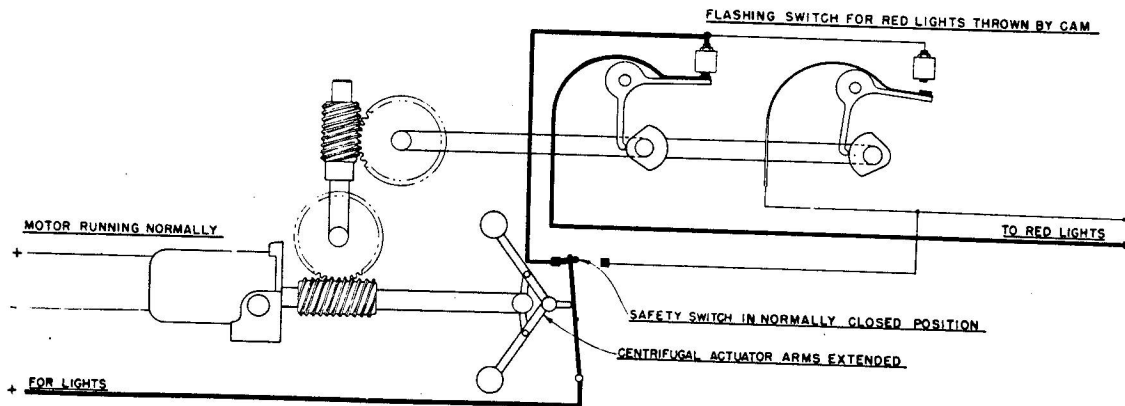

Figure 4-2 - Position Light Flasher, Functional Diagram Showing Red Light Flashing
2. The actuator operates a micro-switch. When the motor runs at a normal speed, the micro-switch is in its normal position and supplies d-c power to the flashing switches. This circuit is shown in figures 4-2 and 4-3. If the motor falls below its normal speed, pressure is applied to the micro-switch, removing the d-c power from the flashing switches and connecting the white light circuit continuously to